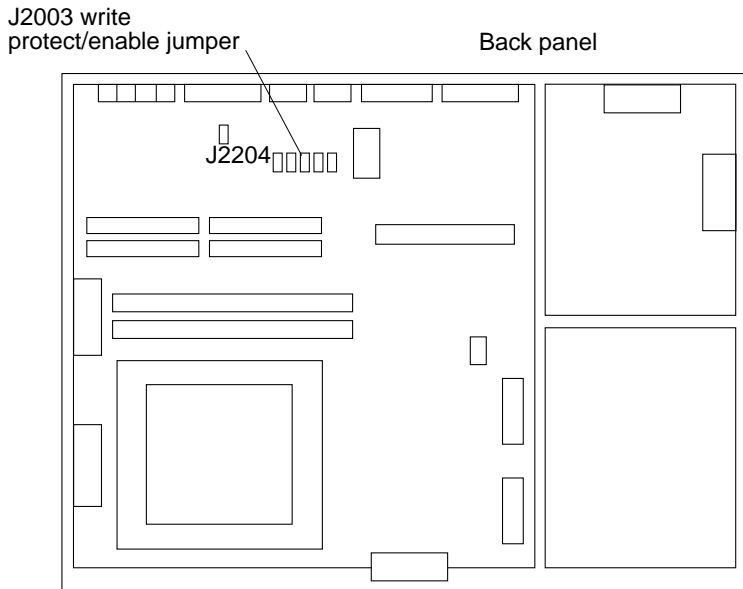

FIGURE 4-3 Sun Ultra 2 System Write-Protect/Enable Jumper Location on Motherboard
- See FIGURE 4-3 if you have a Sun Ultra 2 system.